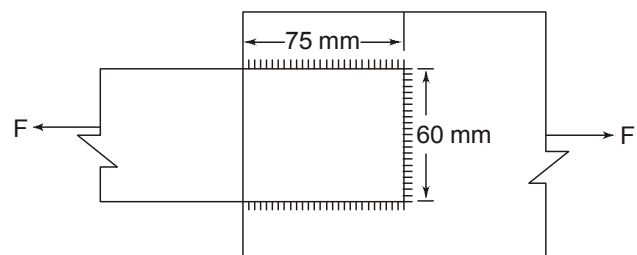

Fig. 4
- (b) Find the safe load that can be transmitted by fillet-welded joint shown in Fig. 4. The size of the weld is 6 mm. ($P_q = 108 \text{ MPa}$). (10)